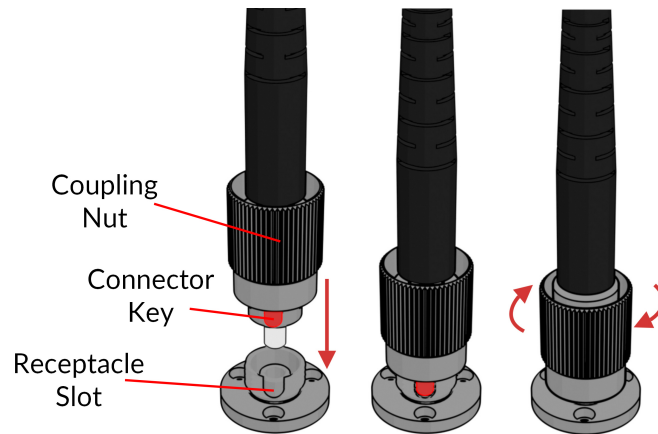

Figure 3.3: FC connector, Fiber Installation
- b) With an FC connector, the connector key must be oriented to enter within the receptacle slot to ensure proper connection (Fig. 3.3).